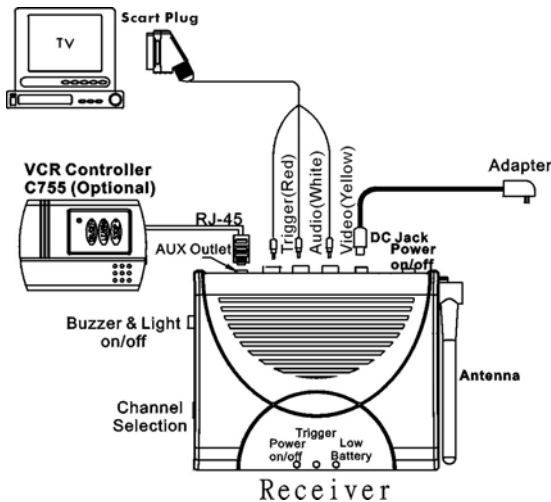

Figure 6 European Version
**European Version (refer to Figure 6):**